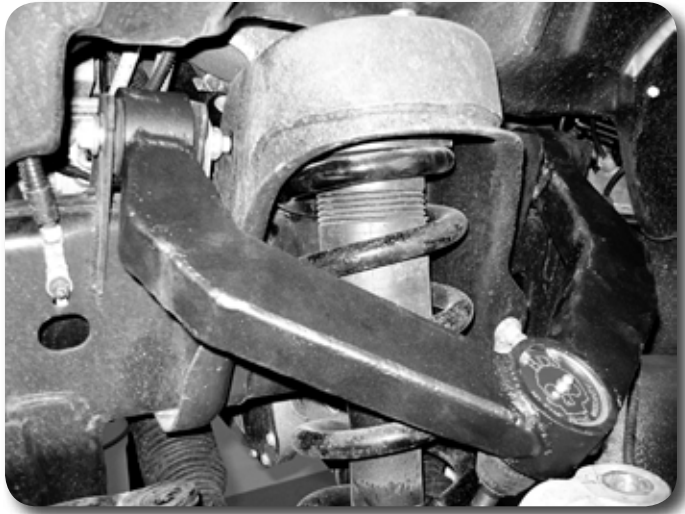

Figure 1
5. Install new control arm, the arms are side specific and will offset the ball joint to the rear of the vehicle. Attach with factory control arm bolts. Attach ball joint to steering knuckle with included castellated nut. (Fig 1)